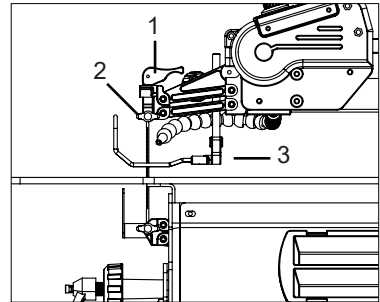

FIGURE 6
5. Loosen the blade guard rear screw (Fig. 6, 3), and tilt the blade guard to the same angle as the table. Retighten the blade guard screw.
2. Rotate the Blade tension handle (Fig. 6, 1) up. Loosen the top blade locking knob (2).